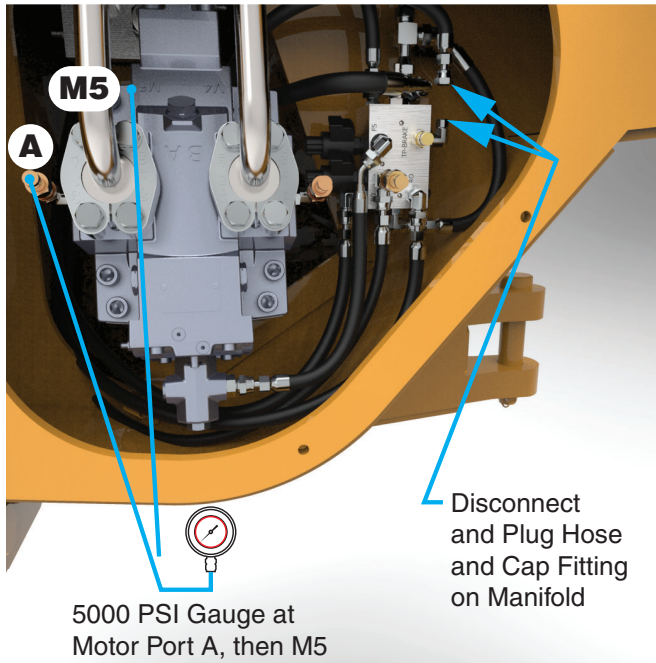

Figure 3-11 Test Equipment Setup
2. Disconnect and plug the brake release hose at the control manifold, and cap the fitting. See Figure 3-11. This will lock the winch brake to build pressure in the motor.